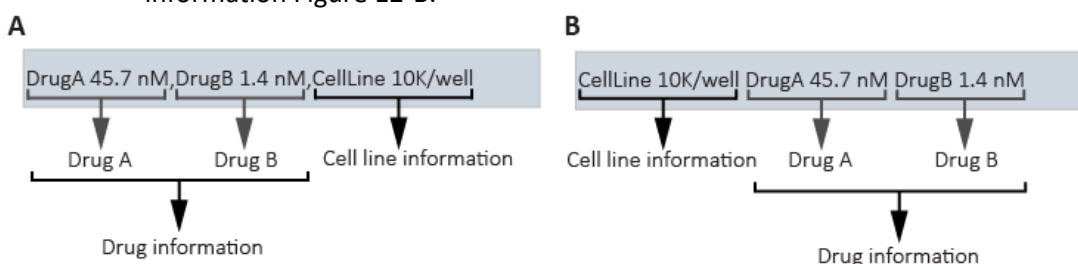

Figure 12: Example of different ways to annotate conditions. A) information separated by “,”. B) information separated by space.
- For each drug, a drug name following the respective concentration and units has to be present Figure 12.
Cell line information is the cell line name and seeding description Figure 12.
- In this case the labelling should start with drug information and at the end the cell line information Figure 12-A.
- In this case the cell line information must be in the first position followed by all drug information Figure 12-B.